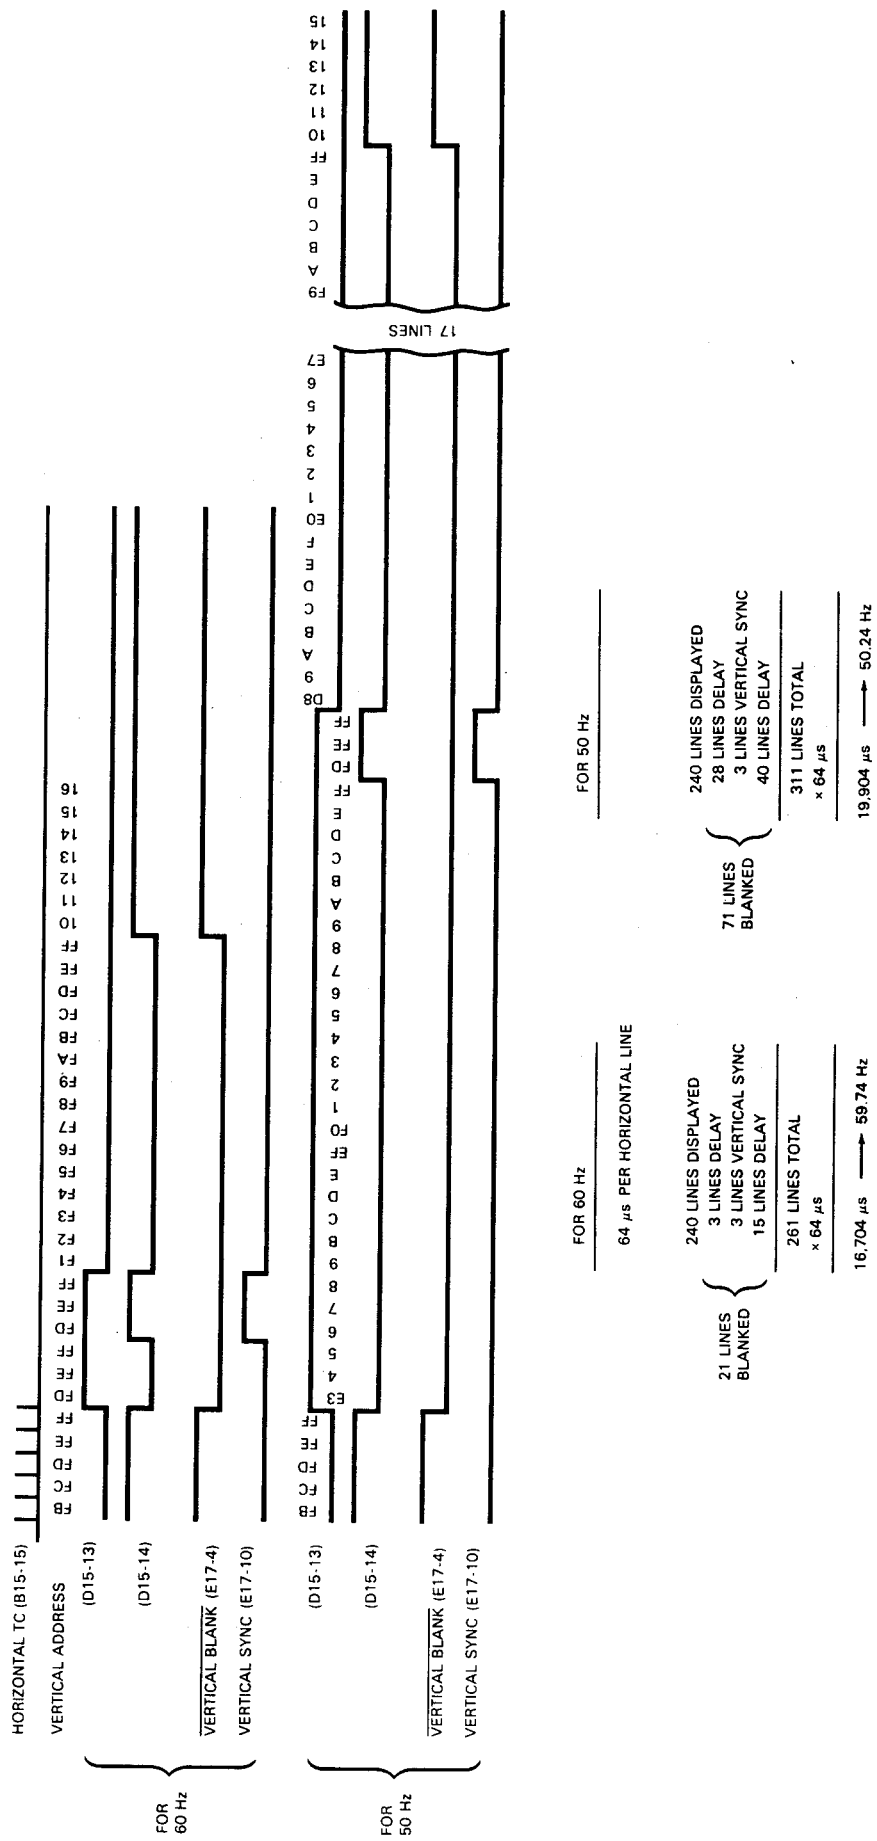

Figure 4.3B CRT Vertical Timing
4.3.5.2 Vertical (Refer to Figure 4.3B)